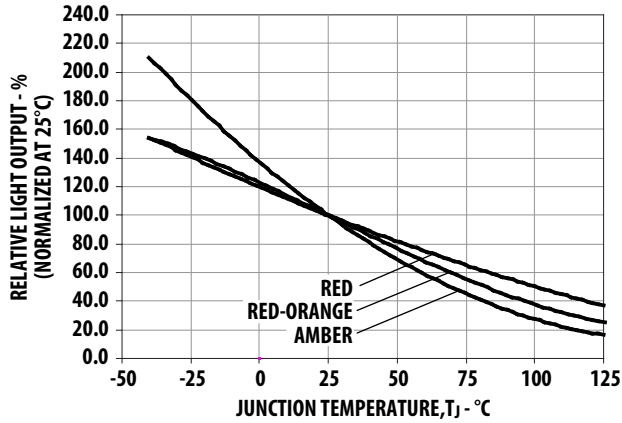
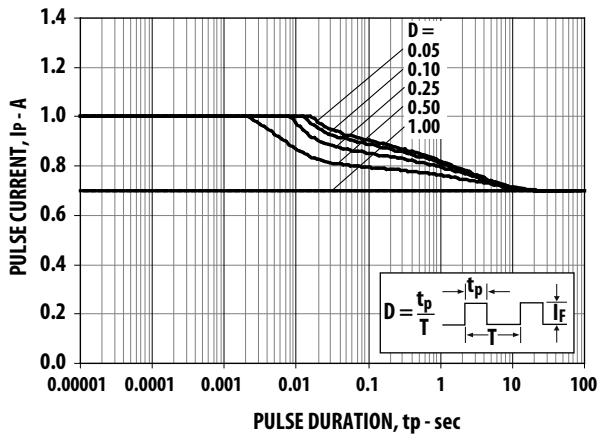

Figure 7. Relative Light Output vs. Junction Temperature.
Figure 17. Maximum pulse current vs. ambient temperature. Derated based on $T_A = 25^\circ\text{C}$, $R_{\theta J-A} = 30^\circ\text{C/W}$.
1. Derate linearly based on Figure 7 for AlInGaP and Figure 17 for InGaN.